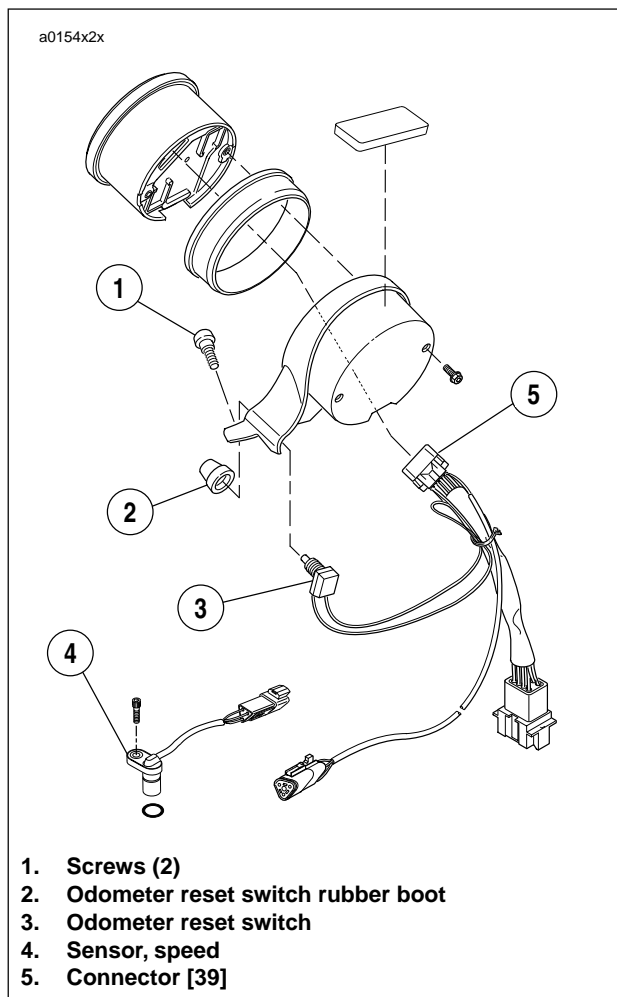

Figure 2-113. Instrument Panel
1. See Figure 2-113. Remove two mounting screws (1) and instrument panel.
3. Remove rubber boot (2) and odometer reset switch (3).
1. See Figure 2-113. Install odometer reset switch to instrument panel and install rubber boot.